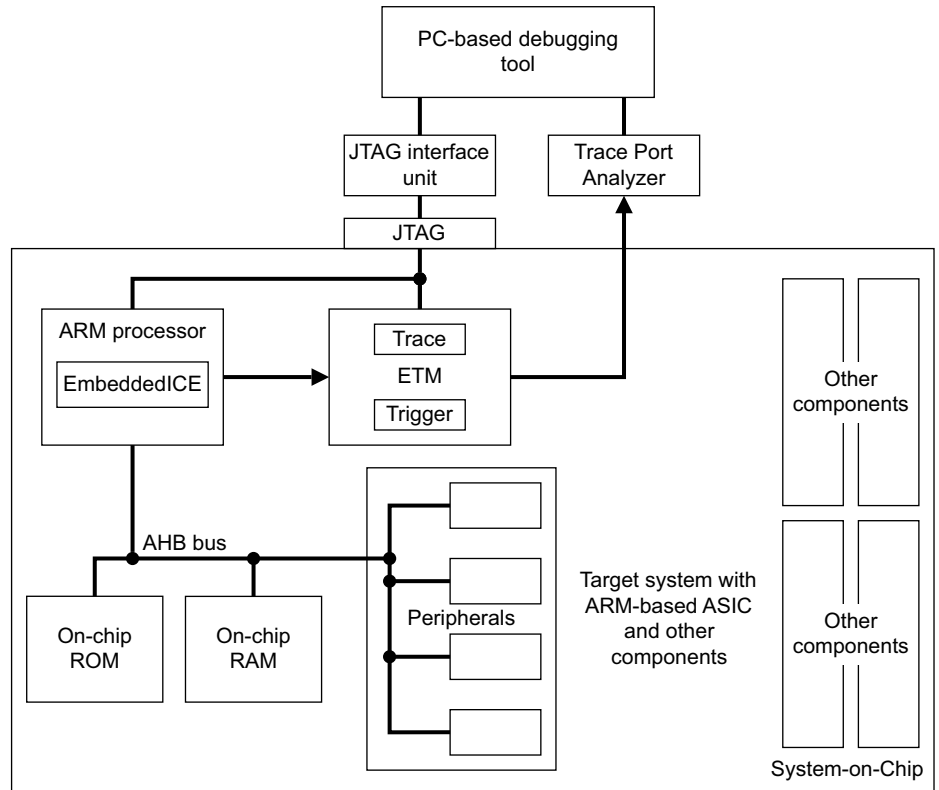

Figure 1-1 Example debugging environment with TPA
- Exports it through a trace port. An external *Trace Port Analyzer* (TPA) captures the trace information as Figure 1-1 on page 1-17 shows.